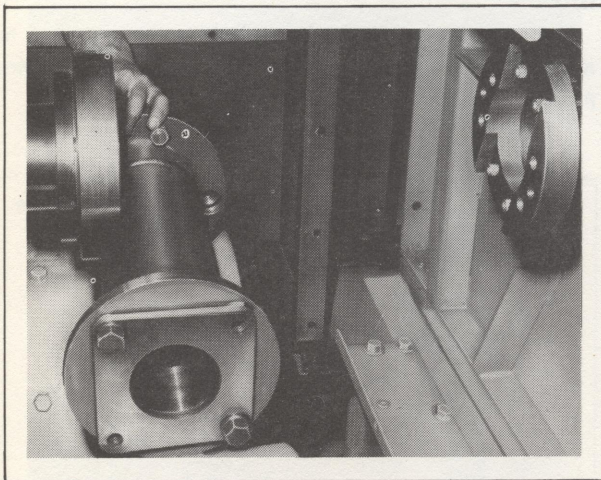

FIG. V-19. BLOWER COUPLING REMOVED.
3. The coupling must be disassembled for installation. Remove two bolts on both ends which secure the coupling flange and flex-pack to the coupling hub, Fig. V-19. Bolt these flanges into the blower and power take-off hubs. Torque flange mounting bolts to 30-35 lb.-ft. torque.
4. Clean bolt, nut and hub threads with a safety solvent, and wipe dry. Apply Loctite Sealant* to bolts which screw into flanges. Assemble bolts and immediately torque the four (4) bolts at each end of coupling to 115-120 lb.-ft.